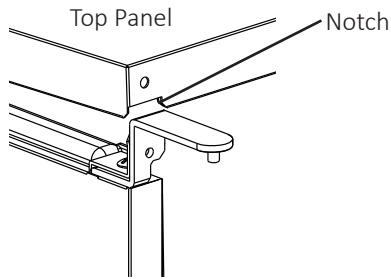

Fig. 7
e) Rotate the top panel 180° from its previous position. This brings the notch that was previously in the right rear to the left front (See Fig. 7). Hook the rear part of the panel on the body, then secure the front with the 2 bolts removed in step 6a.